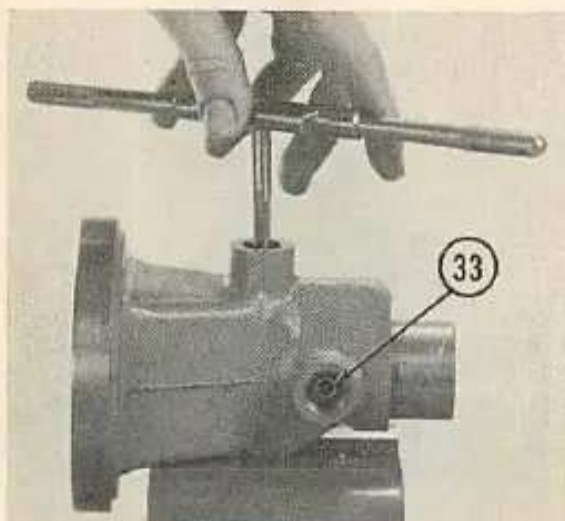

Fig. O44 — To remove connector seats (33), thread inside diameter with tap as
needle bearing (39), seals (30 and 31), connector seats (33) and blocking valve components except the valve spool (25) may be renewed as necessary. Install new needle bearing (39) by pressing on lettered side of bearing cage only until bearing cage is flush with counterbore. Connectors (33) may be removed by threading inside diameter with tap as shown in Fig. O44, then removing connector with puller bolt. Refer to paragraph 52 for information on blocking valve unit.
(21) removed from cylinder to show timing marks (TM). Puller bolt (9) is retained in pinion with snap ring. White ring is Teflon seal ring (16).
move the Teflon seals (16) and "O" rings (17) from groove at each end of piston and remove pinion sealing quad ring (12) from bottom of cylinder. If necessary to remove the check valve assembly (18, 19 and 20) from either end of cylinder, insert punch in hole from inner side of piston head and drive valve ball, spring and spring pin from piston. If the hydraulic line connector seats (13) are damaged, they may be removed in a manner similar to that shown in Fig. O44. Carefully clean and inspect all parts and renew any that are excessively worn, deeply scored or damaged beyond further use.